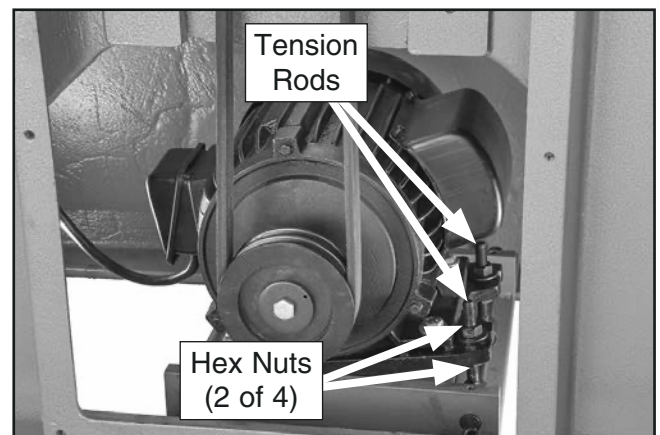

Figure 41. Location of motor tension rods and hex nuts.
4. Loosen hex nuts on motor tension rods (see **Figure 41**).